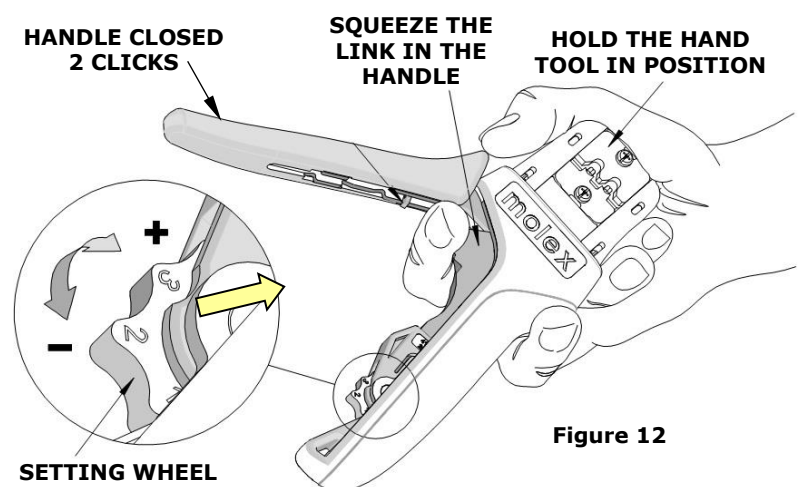

Figure 12
### How to Adjust Tool Preload (See Figure 12)
3. Hold the hand tool in the palm of your hand as shown in Figure 12. Using your index finger, squeeze the link toward the top of the hand tool frame. This will release the preload adjustment wheel.